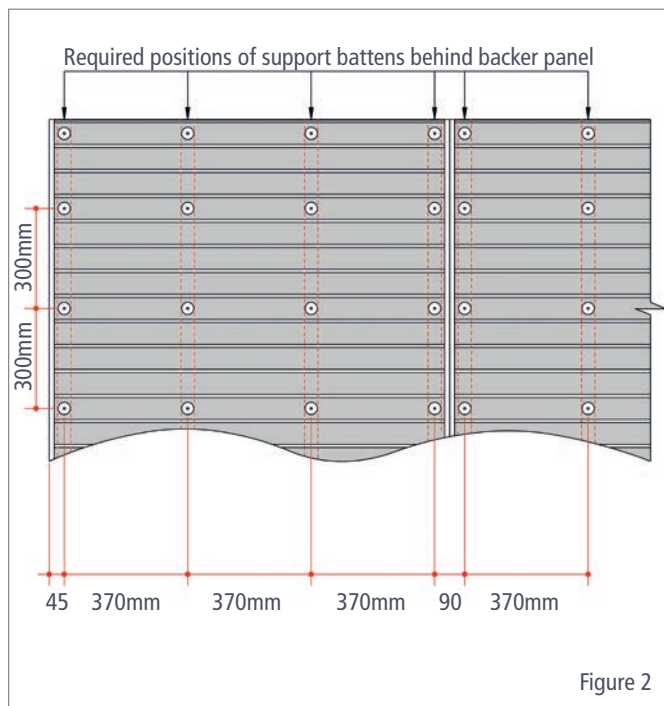

Figure 2
Framing must be attached directly to the existing stud configuration. See Figure 2.
2. SUPPORTING FRAME MEMBER SPACING Where I-Clad panels are to be fixed to battens or studs (creating a cavity), these must be set out to satisfy system fixing requirements. There must be 4 vertical fixing members behind each 1.2m wide panel See Figure 2.
I-Clad panels are normally fixed to vertical battens or studs, top hats or other bracket systems. These must be located accurately to coincide with system design fastener layout (see Figure 2, page 2).